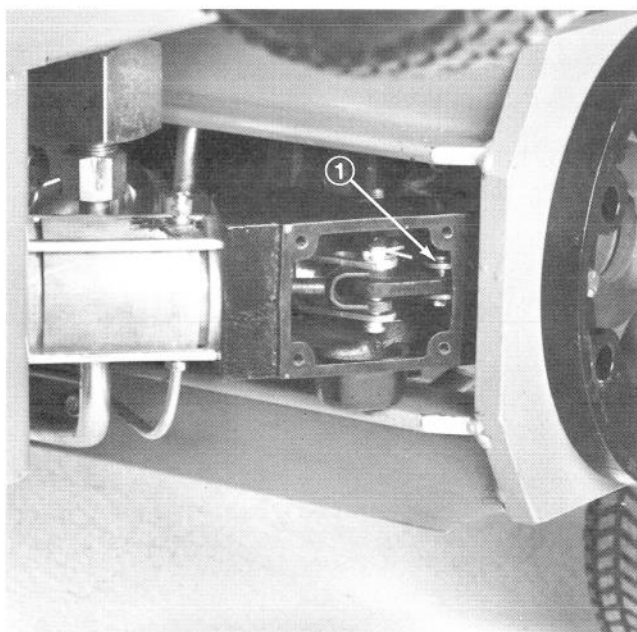

Figure 6
11. Remove cotter key and clevis pin to disconnect brake cable clevis (Fig 6).